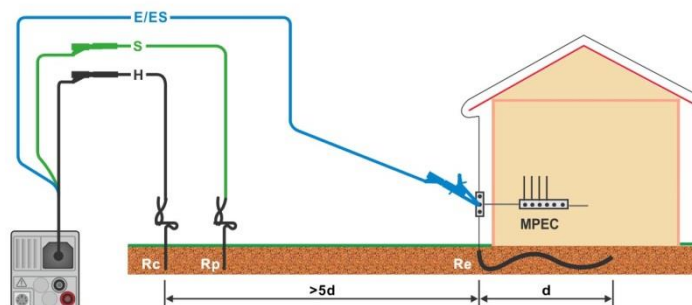
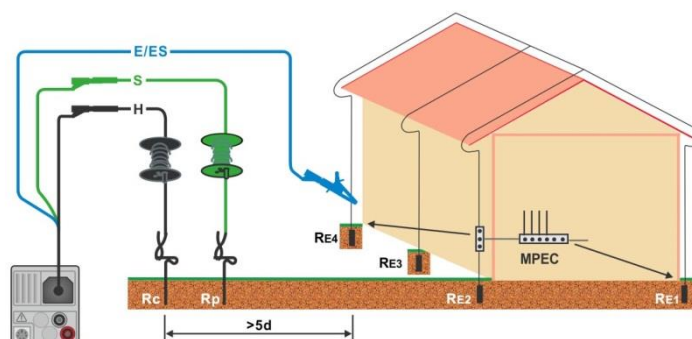

Figure 7.53: Resistance to earth, measurement of main installation earthing
Figure 7.54: Resistance to earth, measurement of a lighting protection system
- › Connect test leads to the object under test, see **Figure 7.53** and **Figure 7.54**.